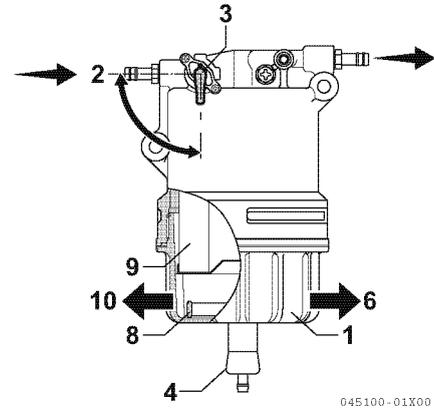

Figure 5-12
1. Position an approved container under the cup (1, **Figure 5-12**) of the water separator to collect the contaminants.
2. Close the fuel valve (3, **Figure 5-12**) by turning it to (2, **Figure 5-12**) position.
3. Loosen the drain valve (4, **Figure 5-12**) and remove the fuel oil and mixed substance. *See Drain water separator on page 5-8.*
4. Turn the cup (1, **Figure 5-12**) to the left (10, **Figure 5-12**) and remove from the bracket. If it comes with a drain sensor, remove the cable in advance.
5. While removing the cup, the element (9, **Figure 5-12**) may come off together. Carefully remove the cup to prevent fuel from spilling. If you spill any fuel, clean up the spill completely.
6. Remove the float ring (8, **Figure 5-12**) from the cup. If it comes with a drain sensor, there is not float ring. Move the drain inside the cup to the specified container, and dispose with a predetermined method.
11. Attach the bracket in the cup. Turn to the right (6, **Figure 5-12**) with a torque of 27 to 33 N·m (2.8 to 3.4 kgf·m). Always tighten with your hand.
13. Open the fuel valve (3, **Figure 5-12**).